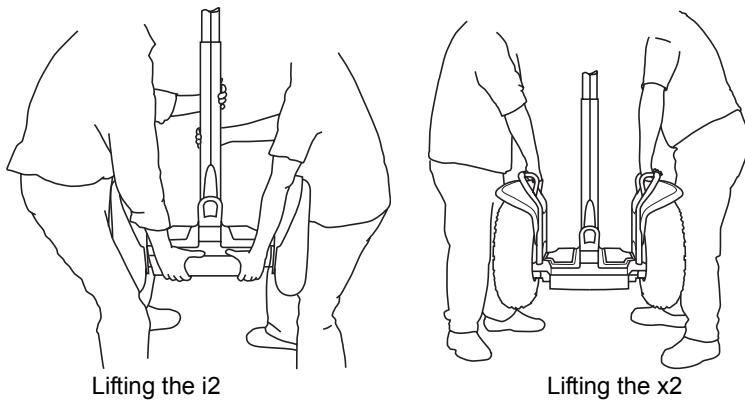

Figure 25. Lifting the Segway PT
3. Lift the Segway PT with your legs, not your back. See **Figure 25**.